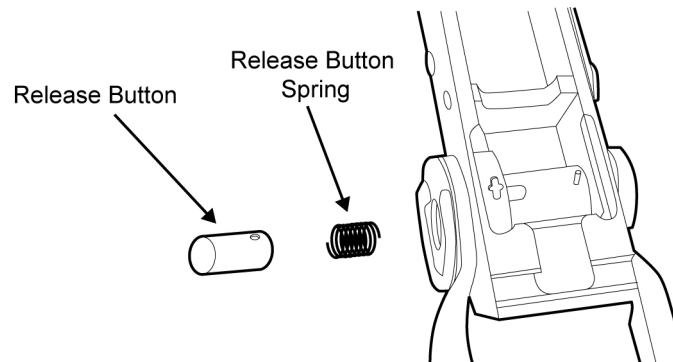

Figure 49. Inserting the Release Button Spring Then the Release Button.
- f. Inserting the release button spring and then the release button into the left side of the buttstock axle. Refer to Figure 49.